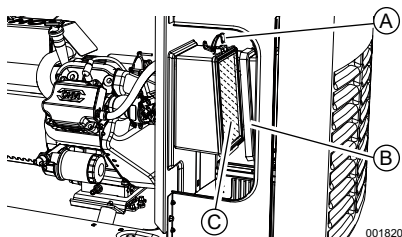
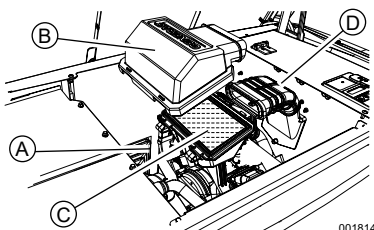

Figure 4-4. Servicing Air Cleaner (10 kW)
Figure 4-5. Servicing Air Cleaner (14–26 kW)
3. See Figure 4-4 or Figure 4-5. Remove cover clips (A) and air cleaner cover (B).